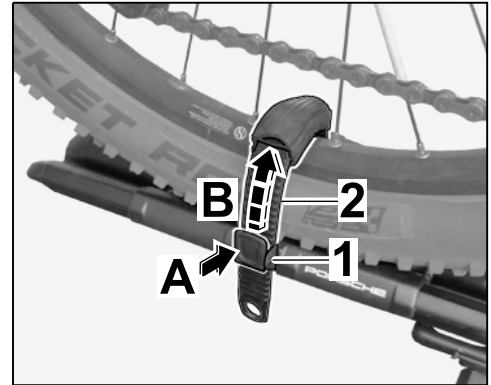

Figure 36
8.1 Press the turnbuckle (⇒ *Figure 36 -A-*) and pull out the tension strap (⇒ *Figure 36 -B-*).